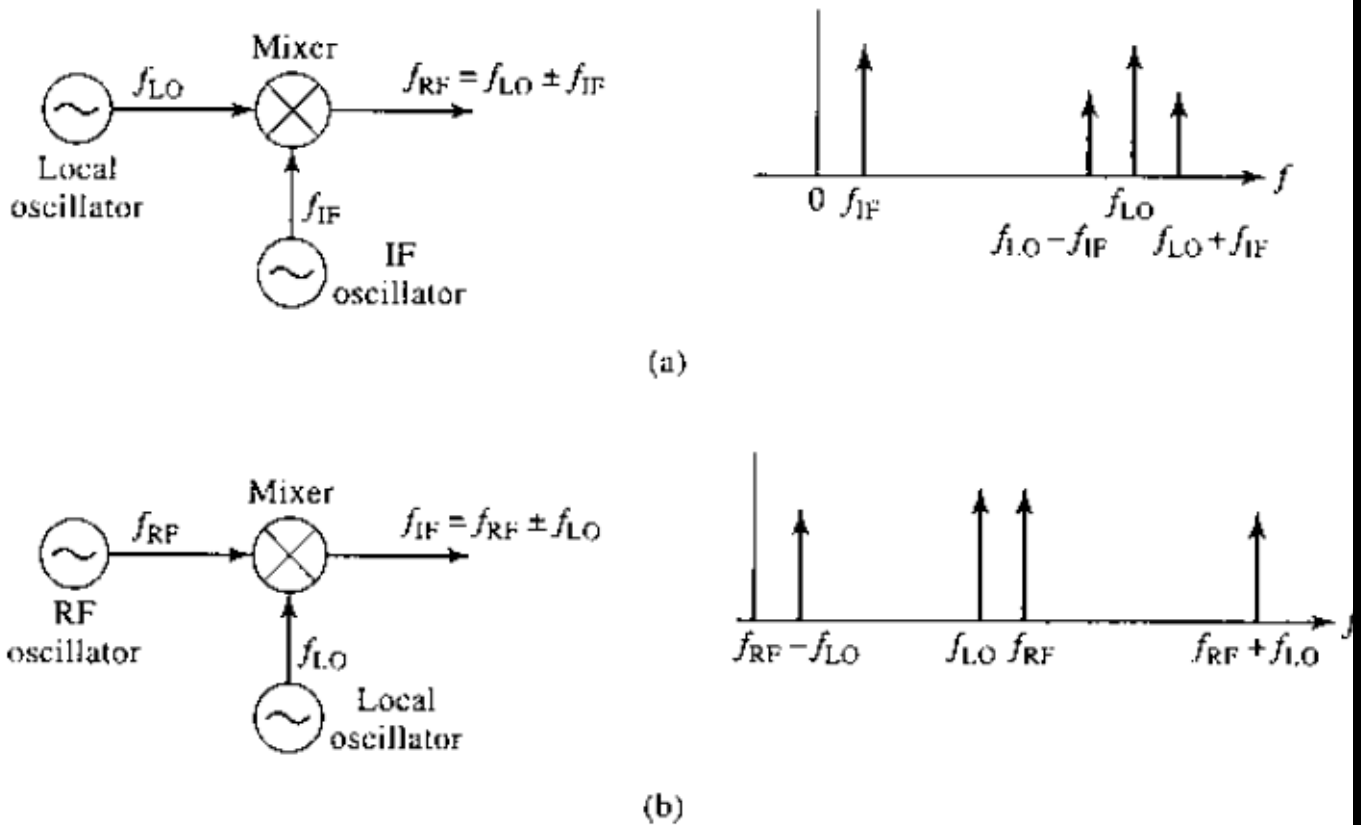

Figure 1
- The symbol and functional diagram for a mixer are shown in Figure 1.